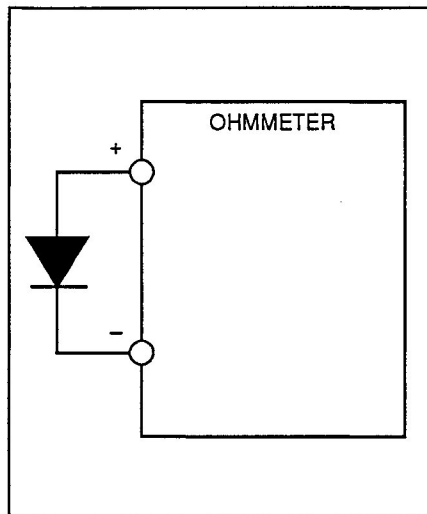

Figure 7-6. Polarity Check at Diode.
2. With a volt-ohmmeter on a known diode, determine the meter polarity as shown in Figure 7-6. The meter reading should be a low ohm reading.